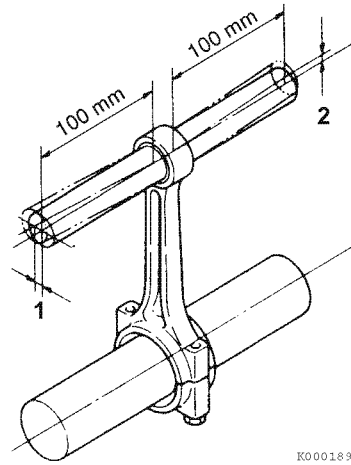

Figure 6-57
5. Check for twist (1, **Figure 6-57**) and bend (2, **Figure 6-57**). See *Connecting rod* on page 6-12 for the service limit. Record all measurements.